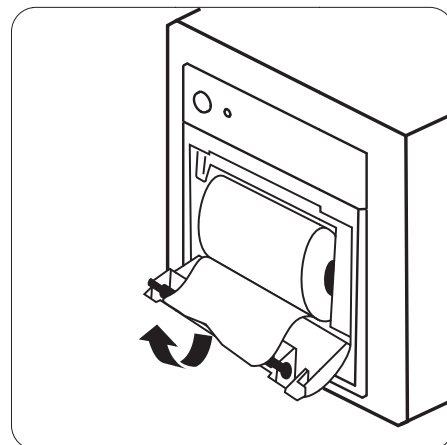

Figure 11-12 Installing Recorder Paper-2
2. Insert a new roll into the compartment with the inner paper side facing up, shown in Figure 11-12.